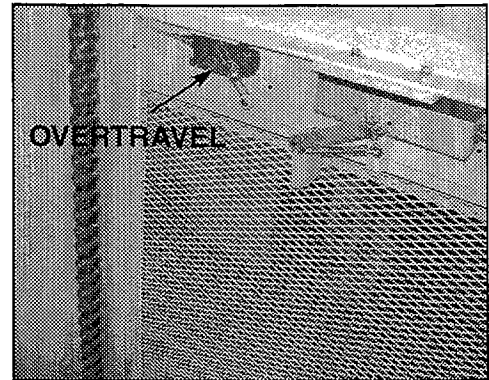

Figure 21
3. Adjust overtravel switch so carriage won't run into interlock or top lift components. See Figure 21.